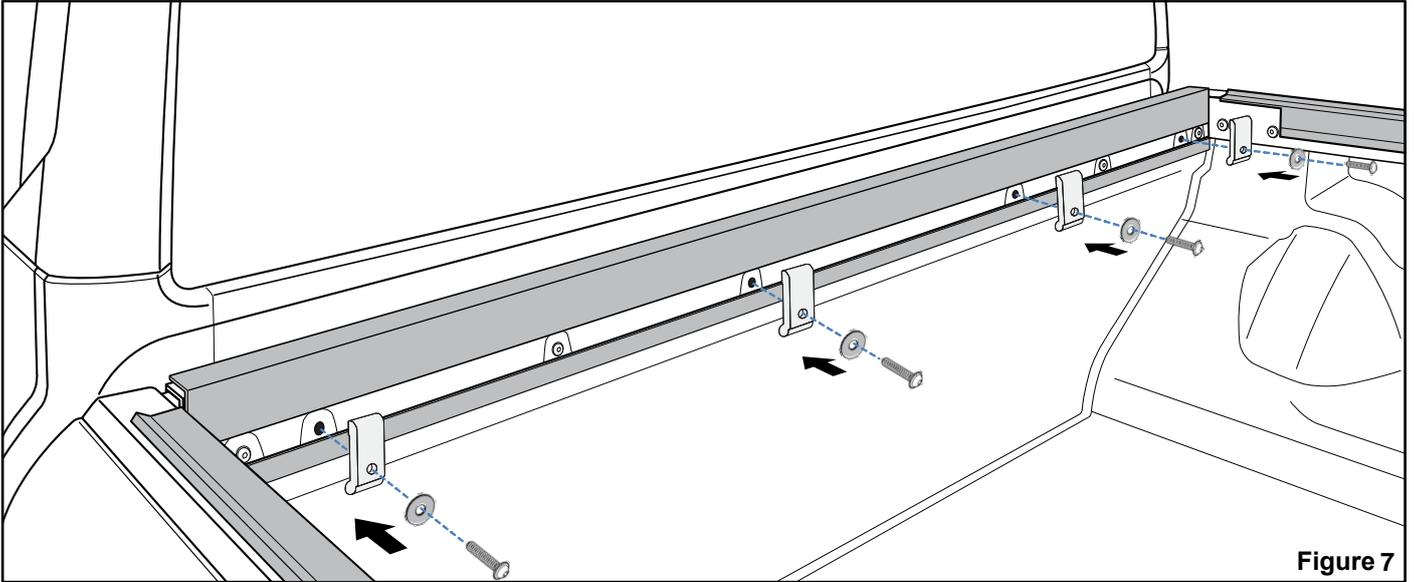

Figure 7
- Attach the 4 Front Rail Braces using the M6 Screws and Washers to where the 4 factory screws were previously removed in Step 3, Figure 7.